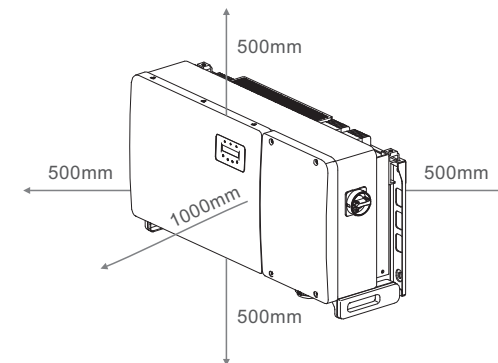

Figure 3.1 Distances required between inverters
- If multiple inverters are installed on site, a minimum clearance of 500mm should be kept between each inverter and all other mounted equipment. The bottom of the inverter should be at least 500 mm above of the ground or floor (see Figure 3.1).